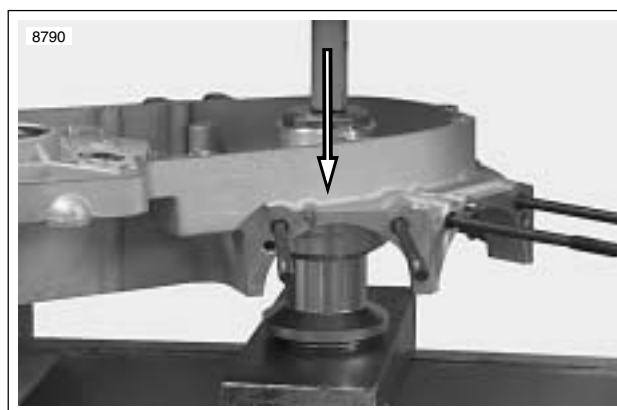

Figure 3-141. Direction of Bearing Removal From Left Crankcase
8. See Figure 3-141. Using CRANKCASE BEARING REMOVER/INSTALLER (Part No. B-45655 and HD-42720-2) press left main bearing out of the left crankcase half.